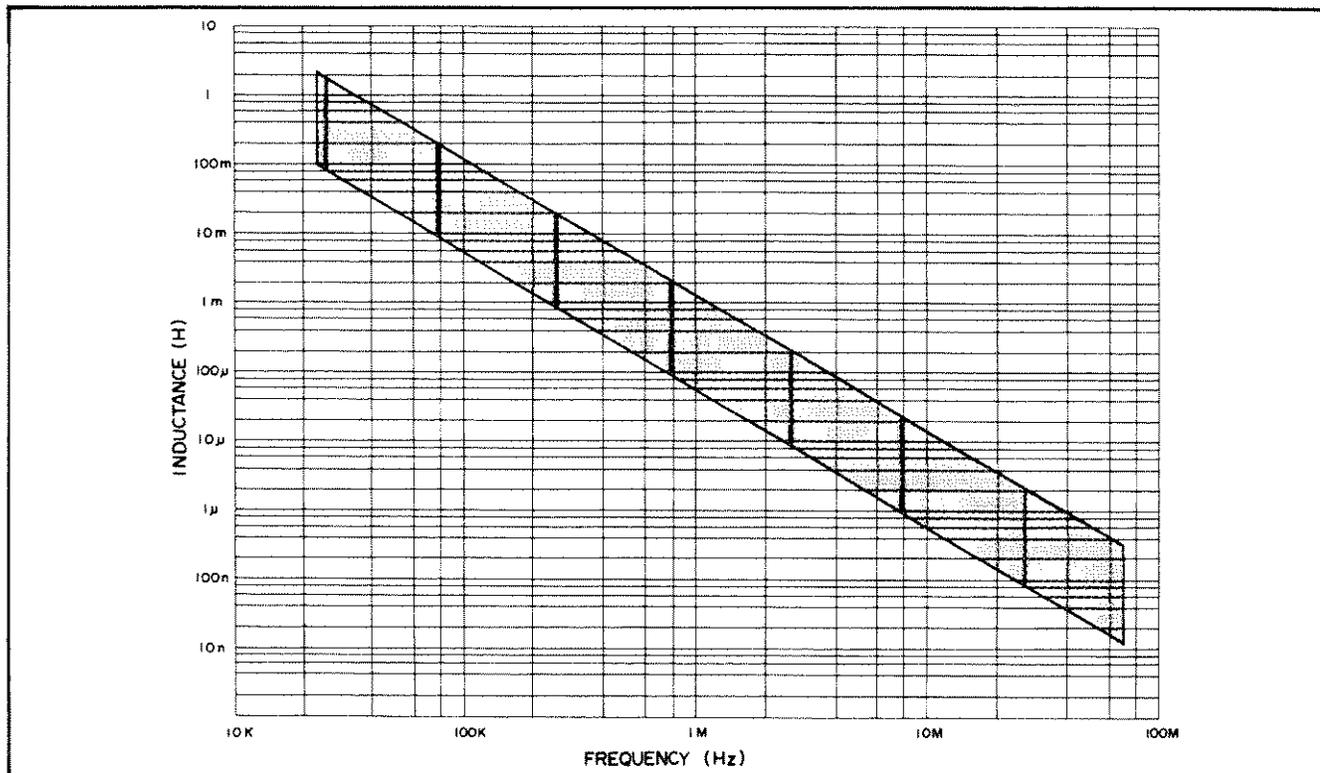

Figure 3-4. Inductance Measurement Ranges vs. Frequency (direct method).
For example, if the measurement frequency is 1MHz, the inductance range of a sample which can be measured directly by the 4342A is approximately 54μH to 1.2mH. And, for a given inductance, the measurement frequency range is indicated. For example, a 10μH inductor can be measured over a frequency range of approximately 2.3MHz to 11MHz. Additionally, the quality factor of sample must be below 1000 (upper range limit). Figure 3-4 shows the relationships between the measurement frequency and the inductance limits measurable with the 4342A alone (without using any supplemental equipment). In Figure 3-4, the shaded area denotes the applicable inductances and useable frequencies. The seven bold lines in the shaded area indicate the "L" frequencies and the ranges of inductance which can be read from the L/C dial L scale
3-19. For higher or lower value inductances (above or below the shaded area in Figure 3-4), a parallel or series connection of the unknown to the measuring circuit enables the measurement to be made. To obtain the value of the desired parameter, these methods employ a comparison of the Q meter indications. The Q meter measuring circuit is first resonated with a reference inductor. Then the sample is connected in parallel or in series with the measuring circuit and the circuit again resonated. The sample value is calculated from the difference in Q meter indication measurements made before and after connecting the sample. In the equation from which the sample values are obtained, the values inherent in the reference inductor are subtracted from the measurement quantities. Consequently, the characteristics of the reference inductor do not (theoretically) affect measurement results.
- b. If the approximate value of inductance is known, select an appropriate measuring frequency range. Refer to the chart in Figure 3-4 or the inductance multiplier label adjacent to the FREQUENCY RANGE pushbuttons. For the samples whose values are quite unknown, select a trial frequency range. Depress the selected frequency range pushbutton.